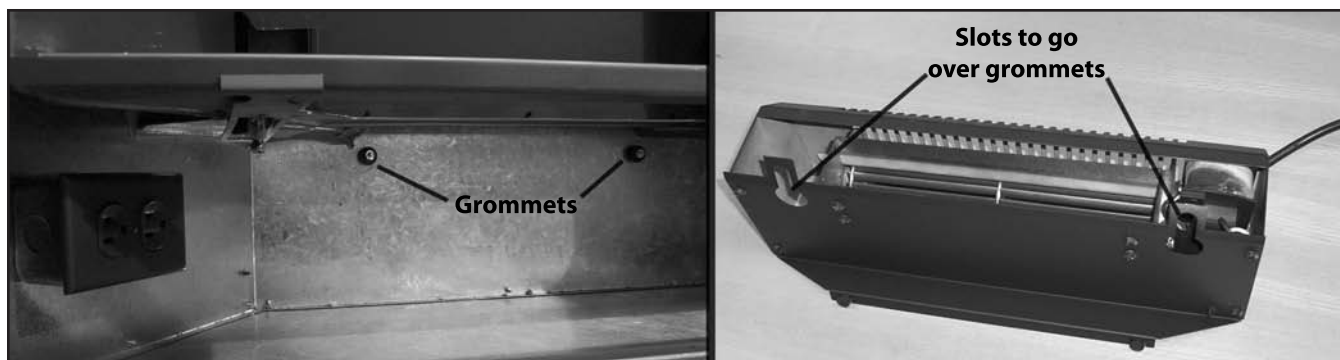

Figure 55. Hook Fan Tabs Over Grommets at Unit Back.
4. Hook the two (2) slots on the fan box over the two (2) grommets on the back wall, refer to Figure 55.